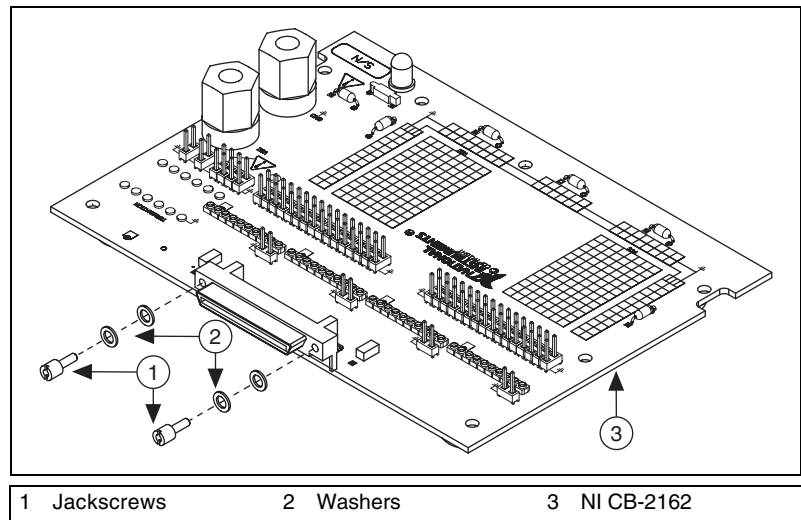

Figure 10. Remove Jackscrews from DDC Connector
1. Remove the jackscrews and washers from the NI CB-2162 DDC connector, as shown in Figure 10.